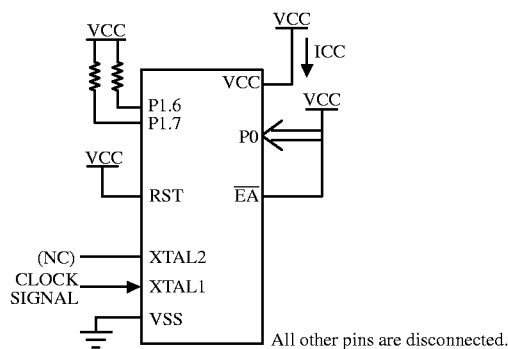
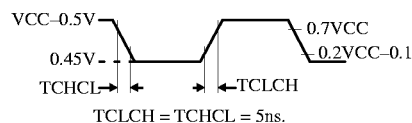

Figure 27 ICC Test Condition, Active Mode
Figure 30 Clock Signal Waveform for ICC Tests in Active and Idle Modes
- Operating ICC is measured with all output pins disconnected; XTAL1 driven with TCLCH, TCHCL = 5 ns (see Figure 30), VIL = VSS + 0.5V, VIH = VCC - 0.5V; XTAL2 N.C.; $\overline{\text{EA}}$ = RST = Port 0 = VCC. ICC would be slightly higher if a crystal oscillator used (see Figure 27).